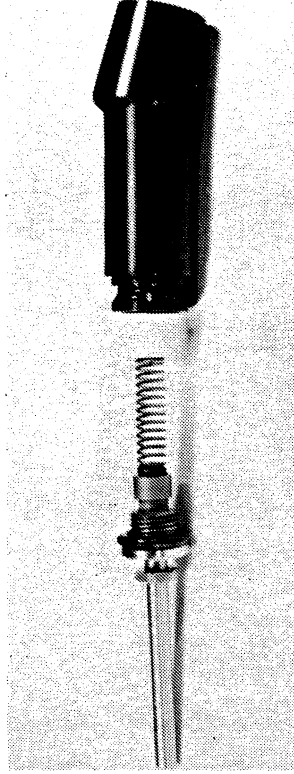

Figure 5
8. For cup seal maintenance remove valve tube assembly as in Figure 5.